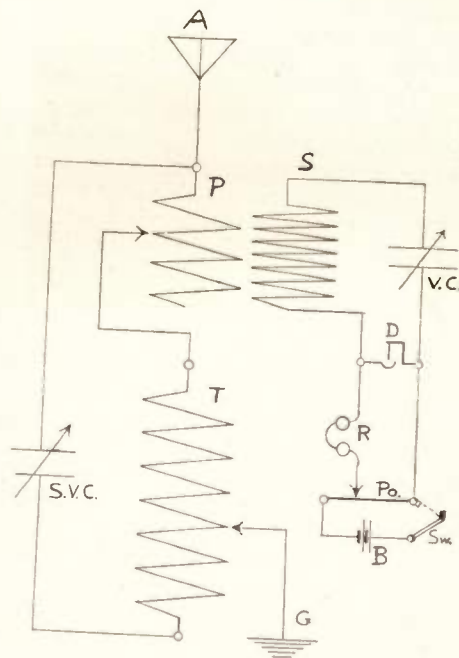
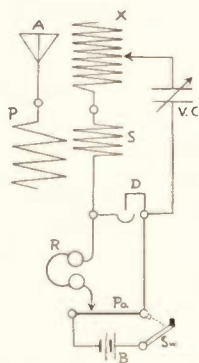

Fig. 2.
Fig. 5.
-FIG. 2-
This aerial is used in communicating with the company's station at Cleveland which is in a direct line with the base of the angle (Fig. 2).
case the inner end of primary winding on the Auxiliary must be provided with a binding-post, while aerial is attached to slider. Secondary circuit same as in Figs. 2, 3, 5. Fig. 5 shows secondary rendered tunable, for superfine selectivity and resonance, by coupling on extra tuning coil X, wound in same direction as secondary. In this case the secondary should be wound only about one inch wide. Another method of tuning the secondary is by winding it in short sections, bringing out the ends to the points of a switch. (See "A Tuning Transformer," MODERN ELECTRICS, March, 1909; page 438.)
double-slide tuning coils. Secondary circuit same as in Figs. 2, 3, 5.